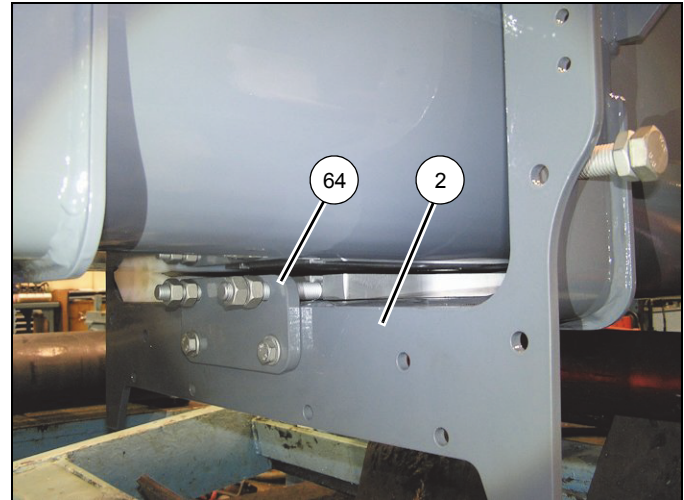

FIGURE 4-55
101. Attach the anchor plate (64) to the top of tele 1 (2) using the two bolts (69), four flat washers (67), and two nuts (18) (see Figure 4-55).